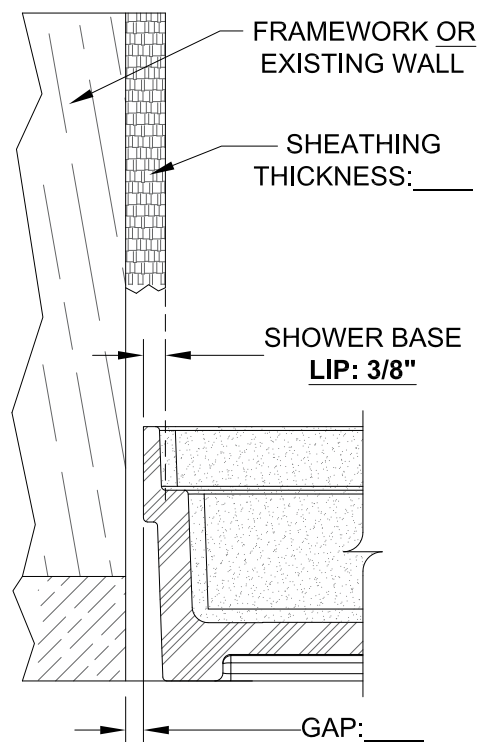

FIG. 2- GAP MEASUREMENT EXAMPLE
**SEE FIG. 2 FOR MEASUREMENT EXAMPLE USING 5/8" MOISTURE-RESISTANT DRYWALL SHEATHING MATERIAL:**